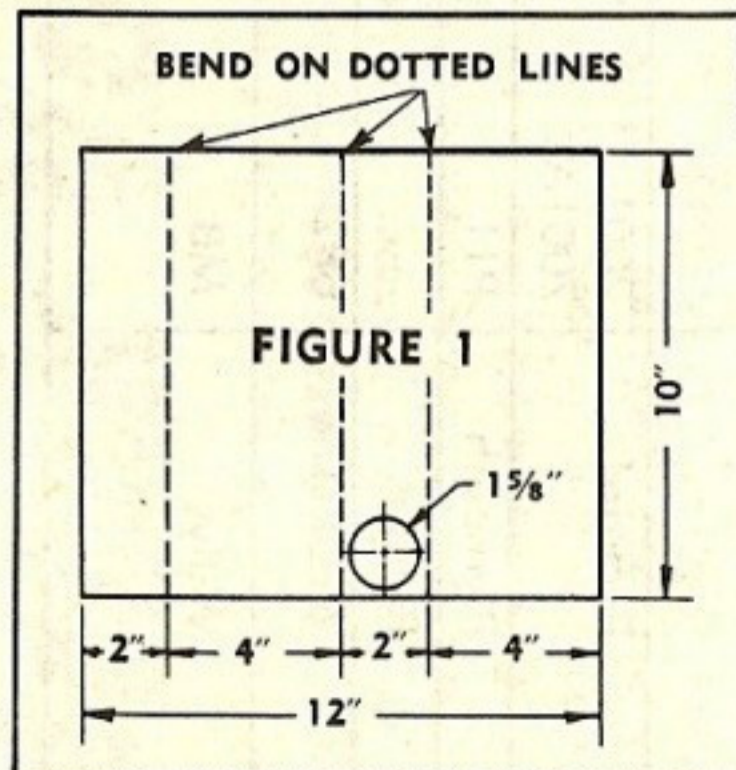

FIGURE 2 1 5/8" DIA.
Cut out two 2"x4" plates (see Figs. 2 and 3) for the top and bottom of your box. In one plate, drill a 1⅝" dia. hole (Fig. 2) so the edge of it is about 3/16" from the end of the plate. This provides the opening for your flange and
2. Cut eight pieces of ¼ or 3/16 x 2" x 5" long, cold-rolled flat steel: Drill two ½" holes (Fig. 2).